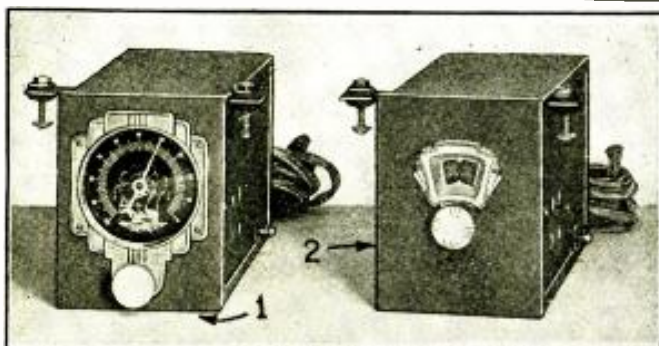

Fig. 1. Schematic diagram of the set. Note the regenerative 2nd-detector.
**G**OOD SHORT-WAVE reception in automobiles is made possible with any automobile radio receiver by attachment of either of the short-wave converters shown in Fig. A. The schematic circuit that is used in both is shown in Fig. 1; electrically, only the coils differ.